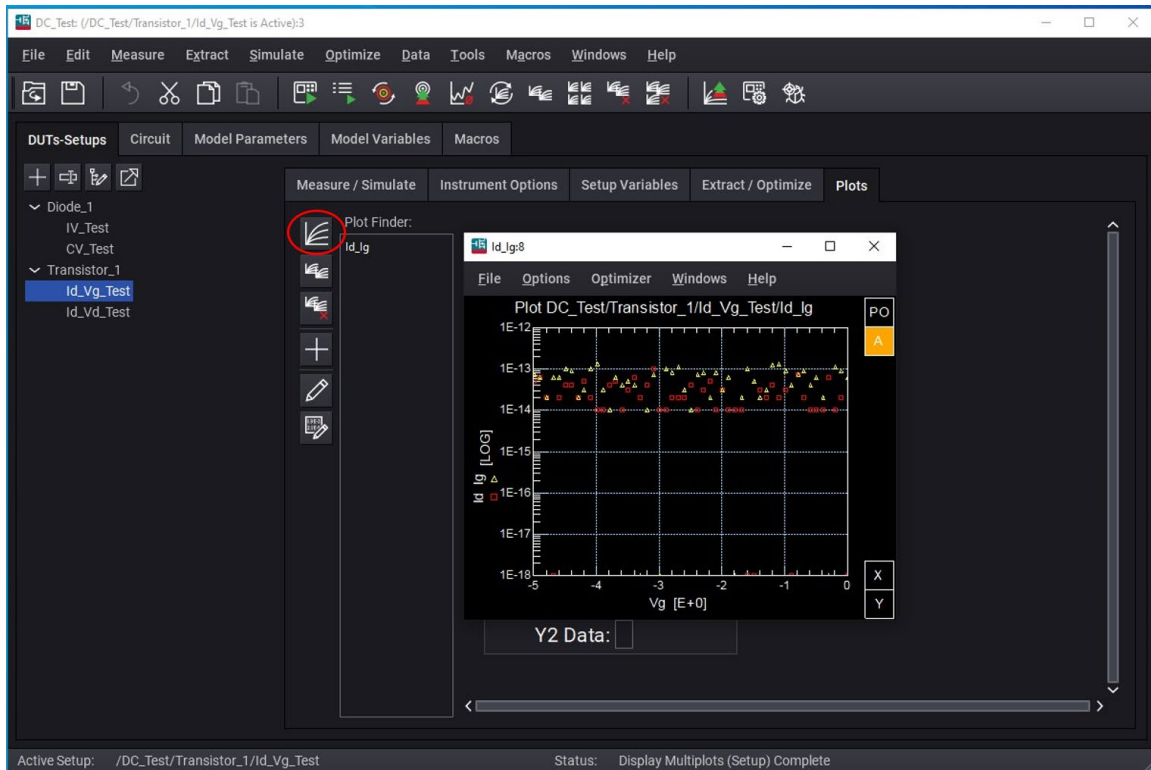
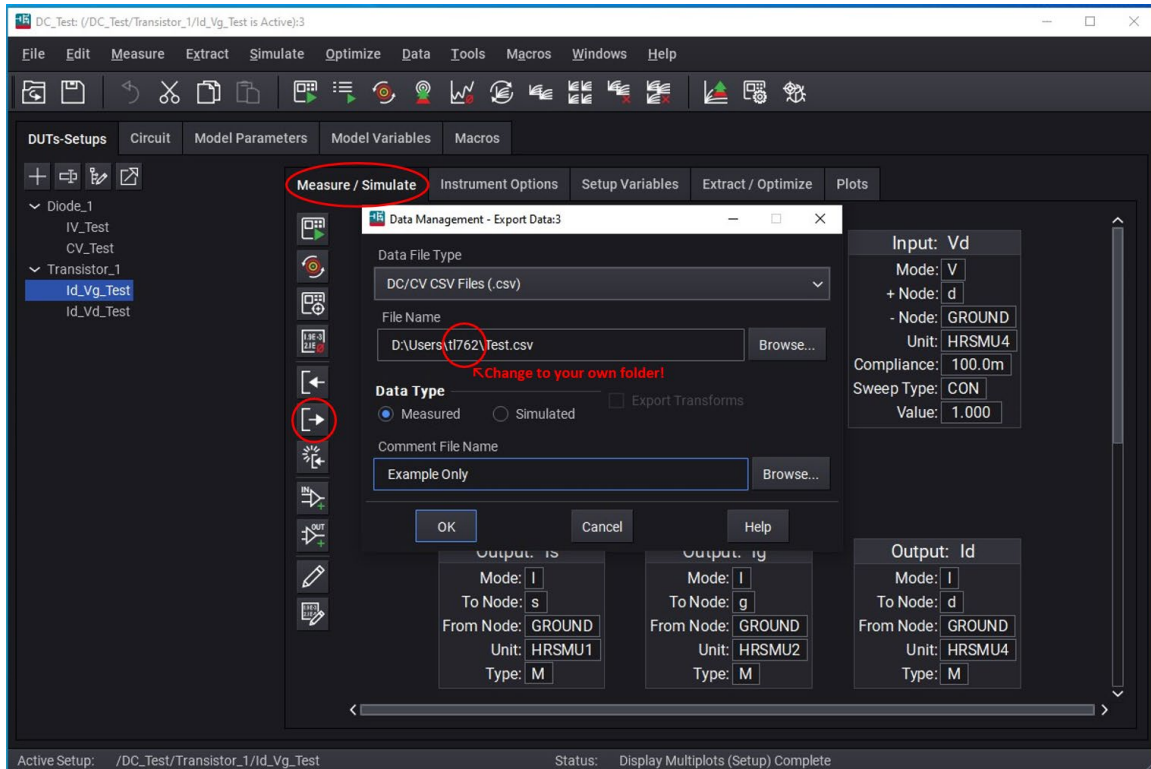

Fig. 3.8. Plot of transfer characteristics measured on a transistor.
Fig. 3.9. Saving measured data.
- 3.11 Click on  on the left menu to "Display Plot" as shown in Fig. 3.8. If the plot appears reasonable, you can click on "File" on the top left corner, then "Save Image" into your own folder after naming the file. Close the image window. To save the numerical data, go back to "Measure/Simulate" on the top menu, click on  on the left menu to "Export Data." On the popup window as shown in Fig. 3.9, ".csv" is recommended for "Data File Type" because it can be easily imported by Excel, etc. Under "File Name," "Browse" your own folder to save data there under a unique file name. Leave "Data Type" as "Measured." Add "Comment" as you wish. Click on "OK" to save the data.